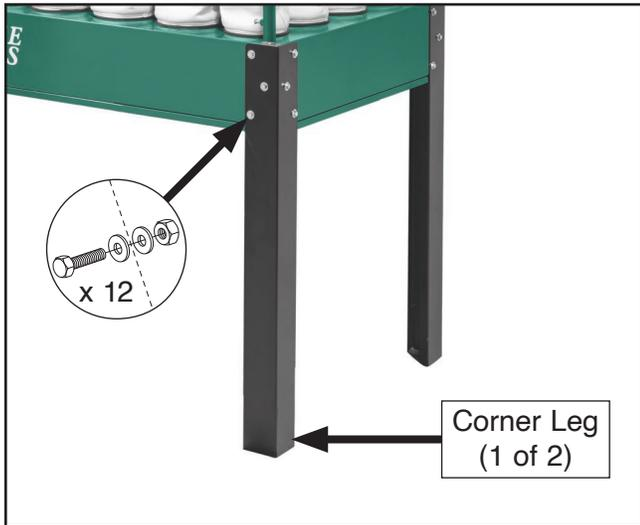

Figure 31. Corner legs installed on right side of machine body.
- Install (2) corner legs on right side of machine body with (12) hex bolts, (24) flat washers, and (12) hex nuts removed in **Step 6** (see **Figure 31**). Hand-tighten fasteners for now.